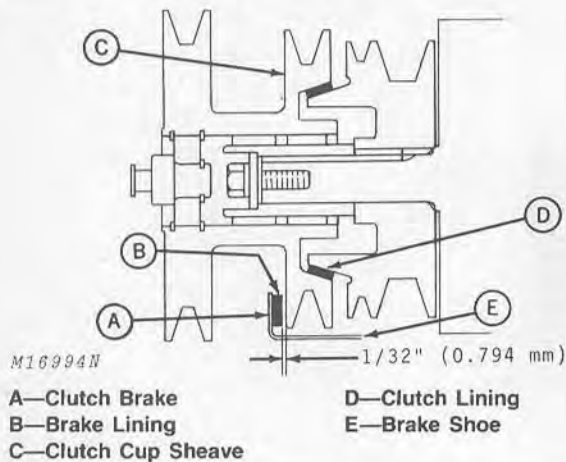

Fig. 8-Adjusting Clearance Between Brake and Sheave
Engage PTO clutch lever (up position). Check distance between the clutch brake (A) and clutch cup sheave (C) for 1/32-inch (0.794 mm) clearance, Fig. 8.